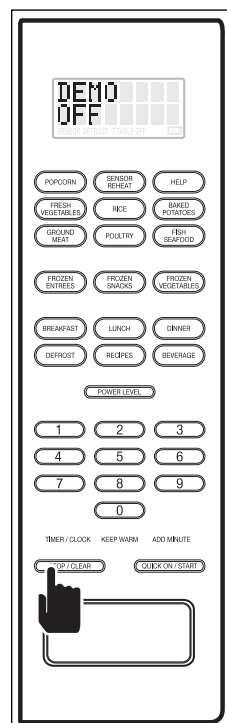

Figure 3-75.
5. When the **STOP/CLEAR** key is pressed at this time, the display will flash “**DEMO OFF**” (See Figure 3-75) and then show the time of day.